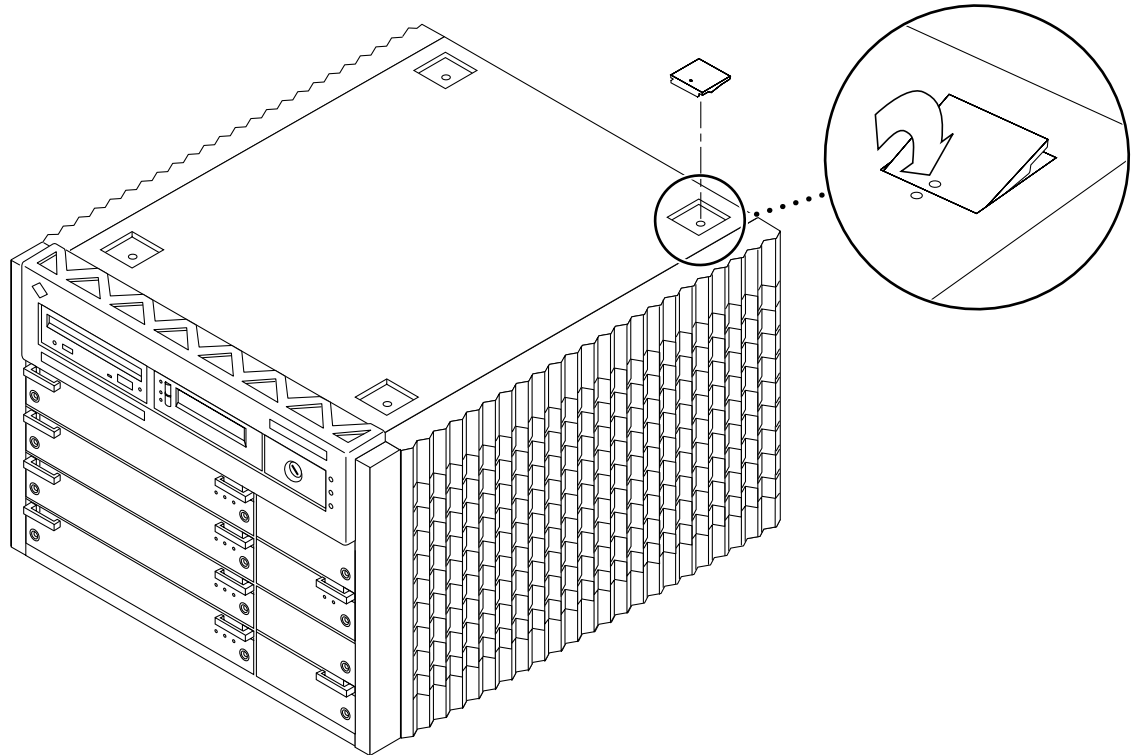

Figure 4 Removing Chassis Cover Plugs
7. Remove the four cover plugs from the top of the first chassis to be stacked by pressing down on each plug as shown in Figure 4.